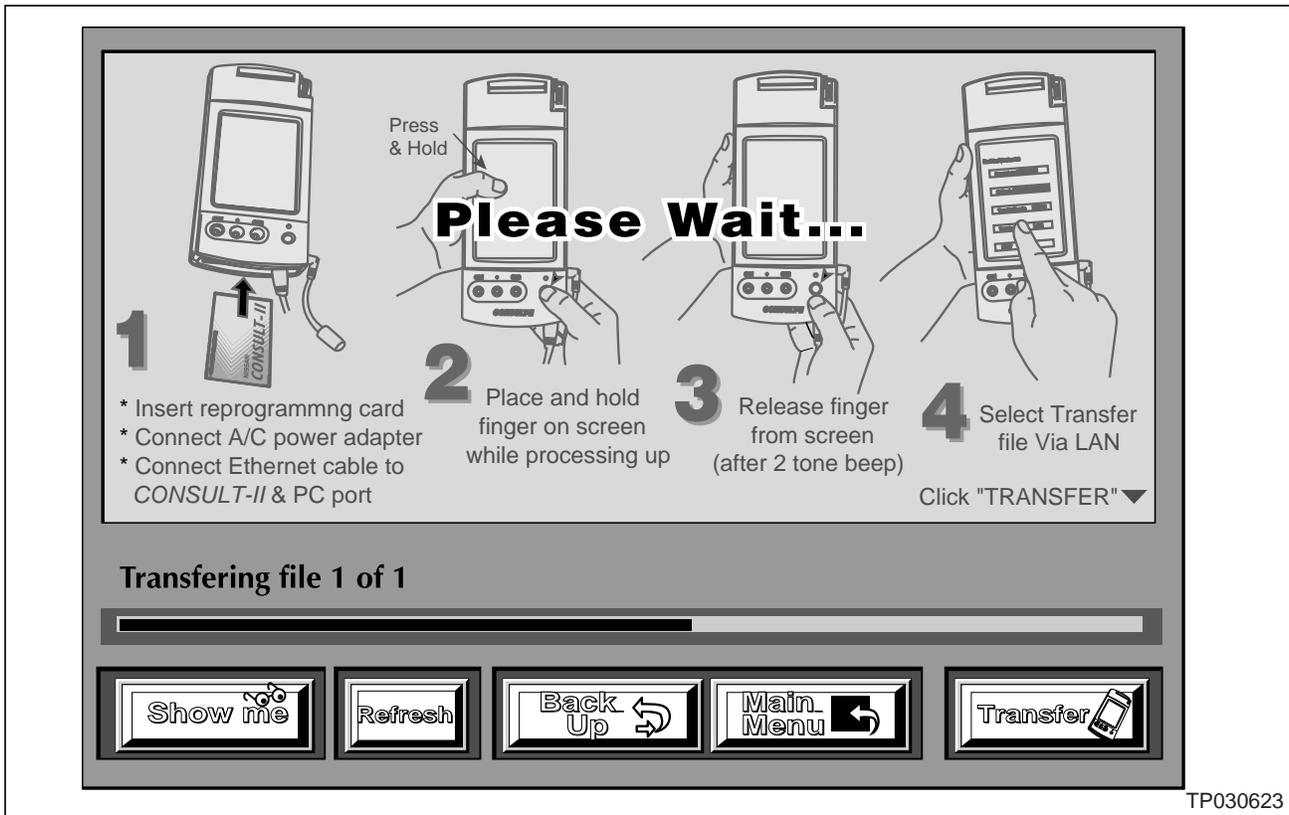

Figure 8
A. On the ASIST screen, click on "**Transfer**" (see Figure 8).
- Transfer progress is displayed on the ASIST screen (see Figure 8).